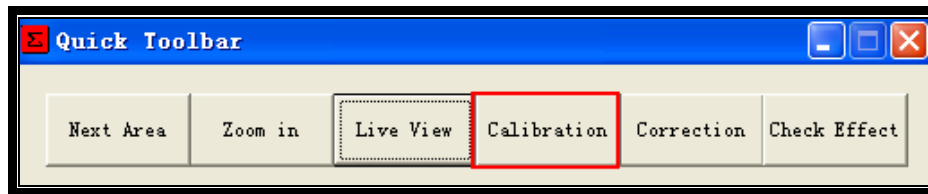

Fig.3-18
Step17: Click the “Calibration” button on Quick Toolbar, as shown in fig.3-18, then the camera will soon take a photo and show it in the display area.